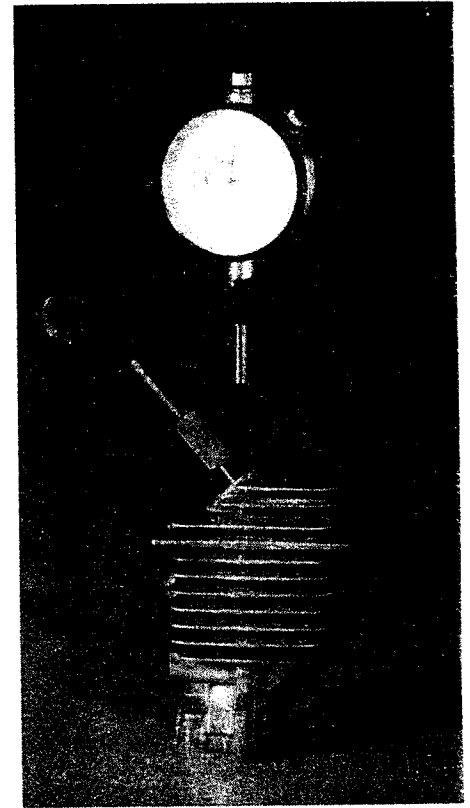

FIGURE 2
1. Attach *slotted* 14mm or 18mm adaptor to angle compensating stud (4296) so that slot is in straight up position (Figure 2).
4. Place indicator in angle compensating arm, making sure that plunger extension passes through slot in adaptor, as in Figure 2. Tighten thumb screw.
5. Adjust angle of compensating arm so that indicator is parallel to the cylinder (Figure 2). Tighten thumb screw.